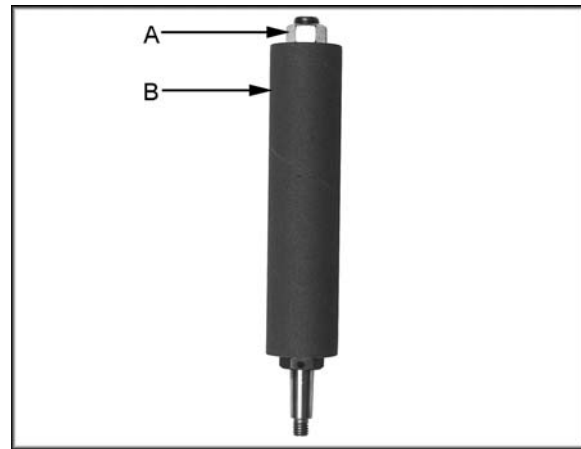

Figure 7
1. Loosen hex nut (A, Figure 7) with a 26mm wrench, or large adjustable wrench.
2. Slide the sanding sleeve (B, Figure 7) off the drum and replace with a new sanding sleeve.